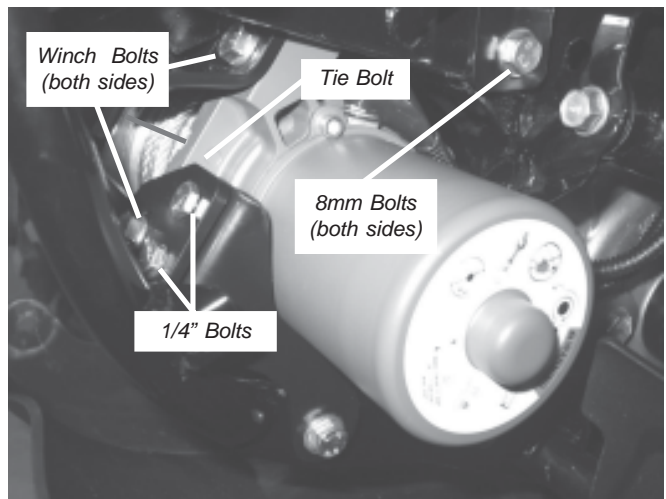

Figure 18 Winch and Mount Bolts
18. Tighten the four winch bolts to a recommended torque of 17 N-m (12 ft-lb), figure 18. Remove the small tie bolt. This bolt should be retained for winch service. Reinstall the two 6mm bolts removed in step 4. Tighten the two 1/4" bolts, the six 8mm bumper bolts, and the two 6mm bolts to a recommended torque of: